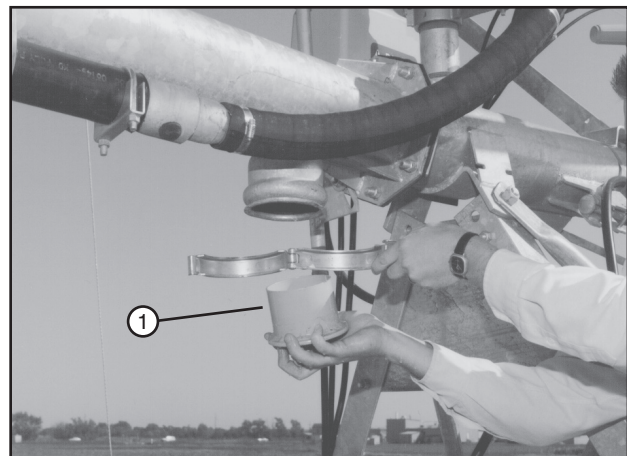

Figure 106-2 1. Sand Trap
4. Remove and clean the sand trap at the last regular drive unit. See figure 106-2.